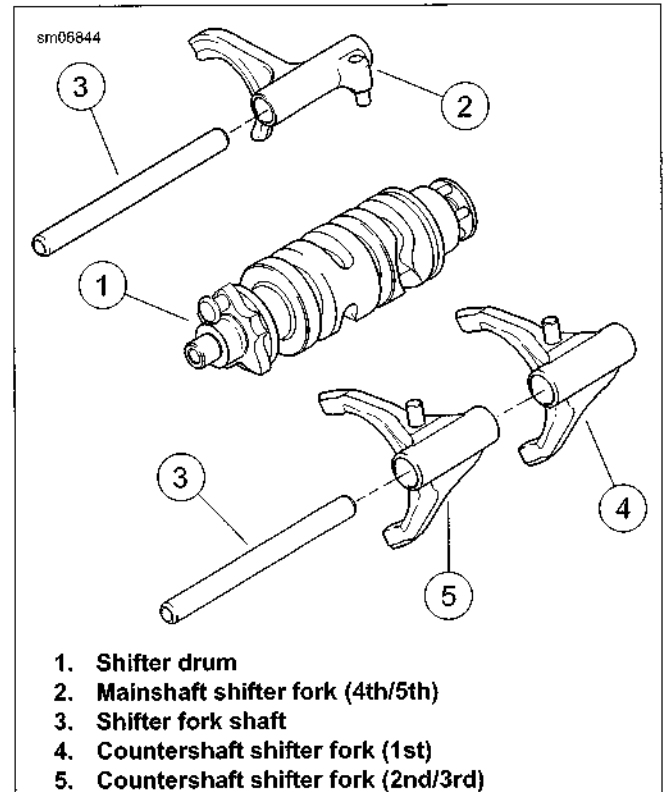

Figure 5-66. Shifter Forks, Drum and Shafts
- See Figure 5-66. Each shifter fork develops a wear pattern with its mating parts. Install each shifter fork in its original location.